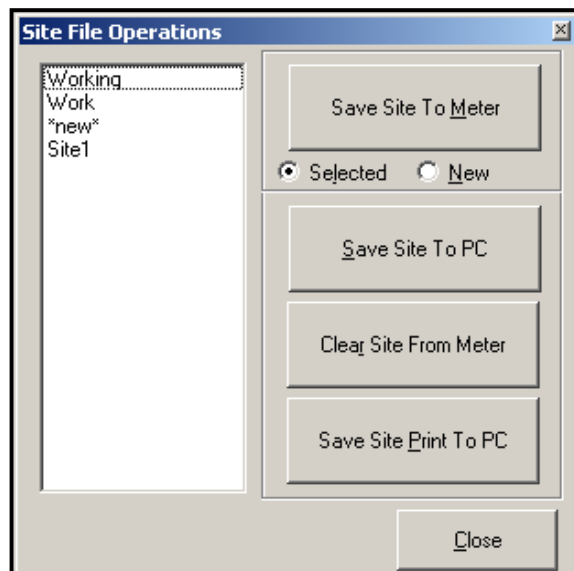

Figure 30: The *Site File Operations* Window
To access site files, click on the *Site Files* button in the *Properties* window. The *Site File Operations* window (shown in Figure 30 below) opens.
1. Highlight the desired site in the left pane. (See Figure 30 on page 98.)
1. Highlight the site in the left pane. (See Figure 30 on page 98.)